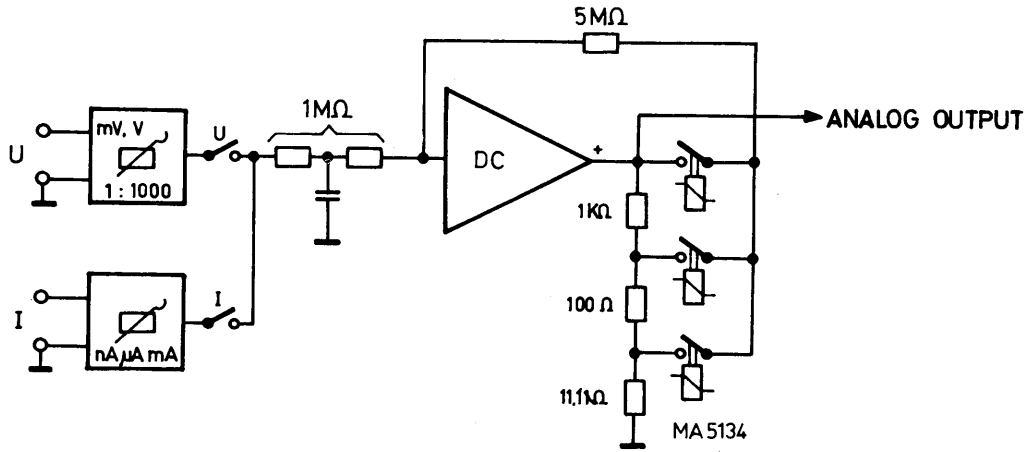

Fig. 6. D.C. measuring circuit
1. D. C. measurements (Fig. 6)